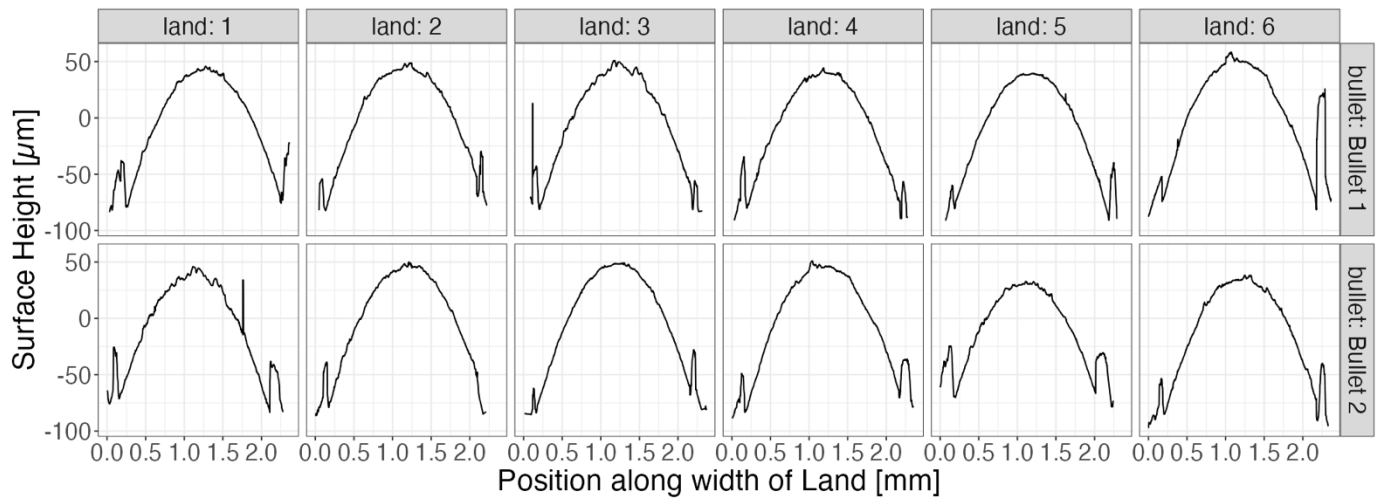

Figure 12. Crosscut profile plots from Bullet 1 and Bullet 2. The grooves have not been removed from the profiles yet.
- The crosscut profiles are plotted before the grooves are removed (Figure 12).